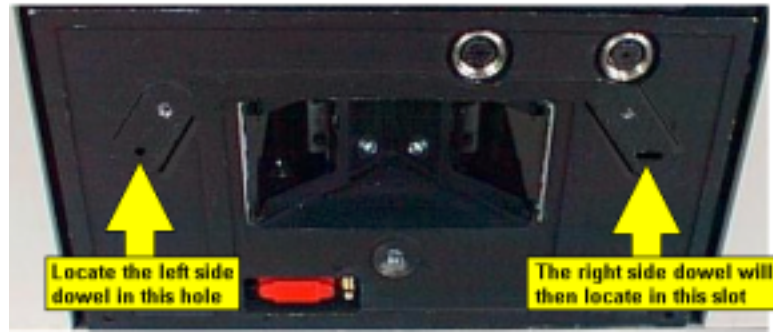

Figure 65 Locating dowels
6. Fix the plate reader body to the LS-50B by aligning the steel dowels, as shown in Figure 65.